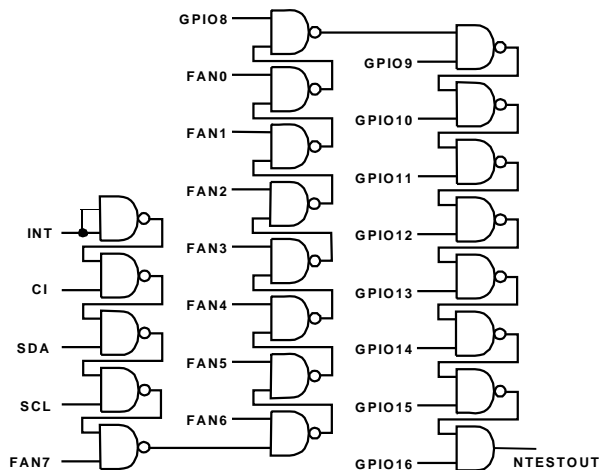

Figure 22. NAND Tree
mated Test Equipment (ATE) board level connectivity testing. This allows the functionality of all digital inputs to be tested in a simple manner and any pins that are non-functional or shorted together to be identified. The structure of the NAND tree is shown in Figure 22. The device is placed into NAND Tree Test Mode by powering up with pin 25 held high. This pin is sampled automatically after power-up and if it is connected high, then the NAND test mode is invoked.
2. If any of the inputs shown in Figure 22 are unused, they should not be connected direct to ground, but via a resistor such as 10kΩ. This will allow the ATE (Automatic Test Equipment) to drive every input high so that the NAND tree test can be properly carried out.